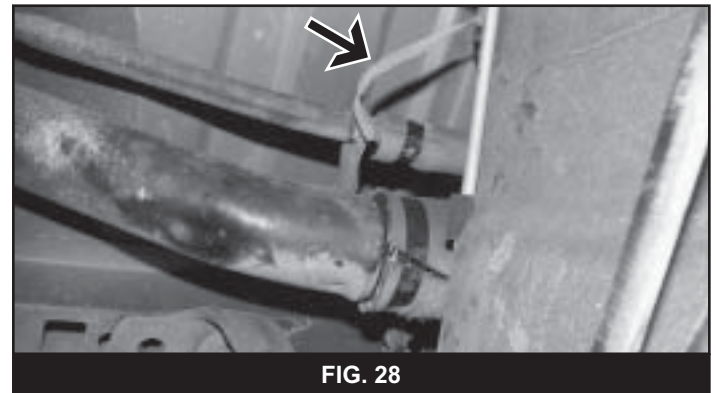

FIG. 28
56. Remove the bolt retaining the fuel filler ground wire to the frame (Fig 28). Loosen the hose clamps retaining the fuel filler and vent hoses to the filler neck and the fuel tank. Remove the hoses from the fuel tank and the filler neck. Note: The rubber hoses can be cut length-wise to aid in ease of removal.